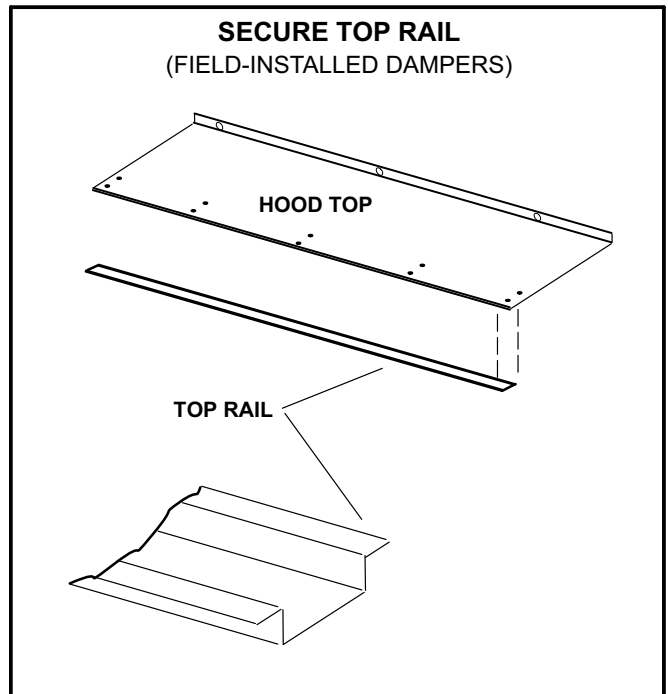

FIGURE 3
- 1- On field-installed dampers, secure hood top rail to the hood top with screws provided. See figure 3.